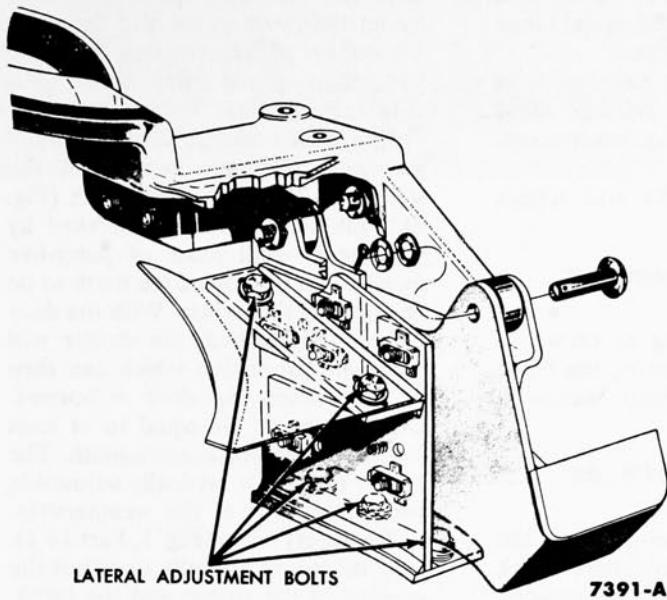

FIG. 5—Main Pivot Bracket—Lateral Adjustment
1. At both main pivot brackets loosen the lateral adjustment bolts shown in Fig. 5.